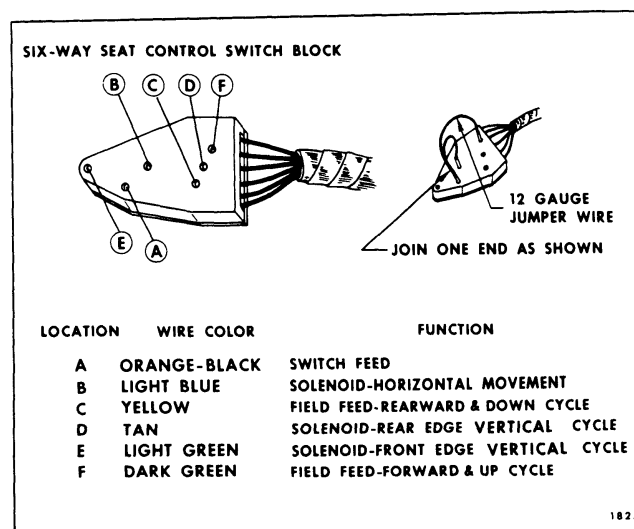

Fig. 10-36-Six-Way Seat Switch Block in Seat Side Panel
**NOTE:** In the following operations which specify the seat control switch to be actuated, a switch that has been checked for proper operation may be connected to the switch block. If a switch is not available, a three-way jumper wire can be made to perform the switch function. The jumper wire and the switch locations to be connected to obtain a specific movement of the seat are shown in Figures 10-36 and 10-37. If a jumper wire is used, letter the locations on the switch block as indicated in the illustration. Details outlining the making and use of the jumper wire follow the checking procedure.
To make jumper wire, obtain two pieces of No. 12 gauge wire, each 4-1/2" long, join one end of each wire as shown in Figure 10-36. The joined end can be inserted in the feed location in the switch block; one of the remaining ends can be inserted into one of the field locations in the switch block; the other end can be inserted into one of the solenoid locations.
1. On bodies with switch in seat side panel (Fig. 10-36) proceed as follows: